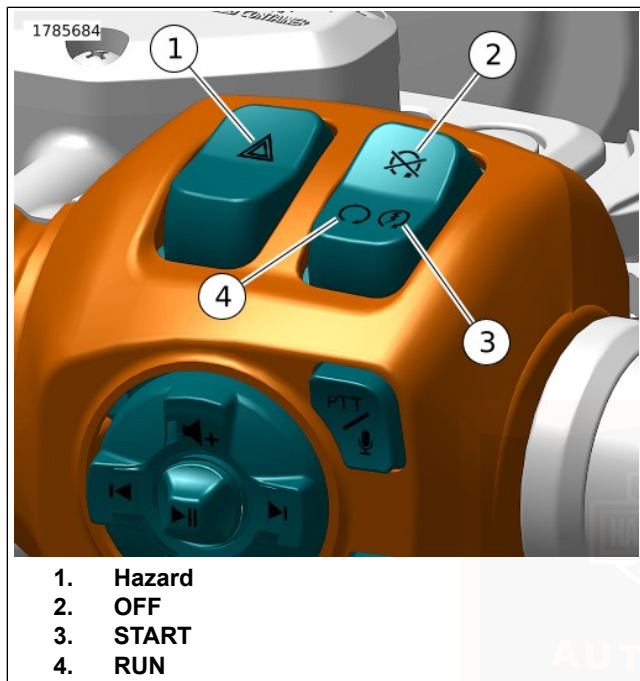

Figure 54. RHCM: OFF/RUN/START and Hazard Buttons
1. See Figure 54. With the security system fob present, press the OFF/RUN/START switch to RUN (4). Do not roll the throttle.
5. Press and release the START (3) button to start the motorcycle.
2. See Figure 54. Set the OFF/RUN/START switch to OFF (2).
1. See Figure 54. Set the engine OFF/RUN/START switch to RUN.
1. See Figure 54. Push the OFF/RUN/START switch to OFF (2).